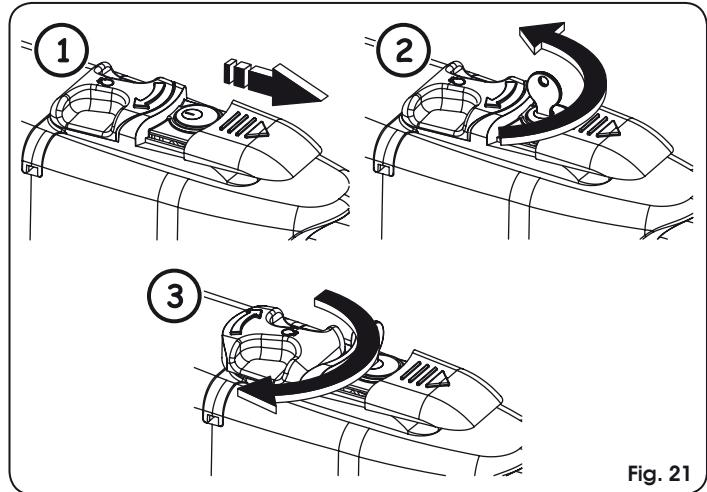

Fig. 21
- Slide the protective cap, Fig. 21/1.
- Insert the key and turn it 90°, Fig. 21/2.
- To release the operator turn 180° the control lever to the direction indicated by the arrow on the release system, Fig. 21/3.